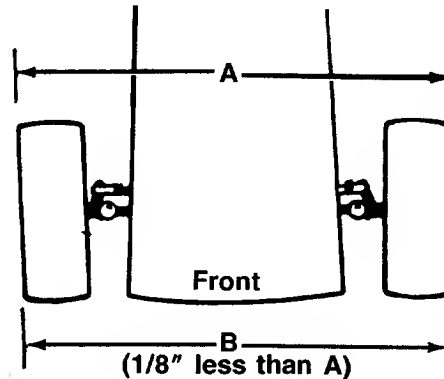

FIGURE 18.
2. Adjust the tie rod for correct toe-in by threading the ferrule in or out as necessary. (See figure 18.) Reassemble the tie rod.
3. Adjust the tie rod assembly for correct toe-in. (See figure 18.) Retighten hex jam nut.
Dimension "B" should be approximately 1/8" less than Dimension "A." See figure 18.